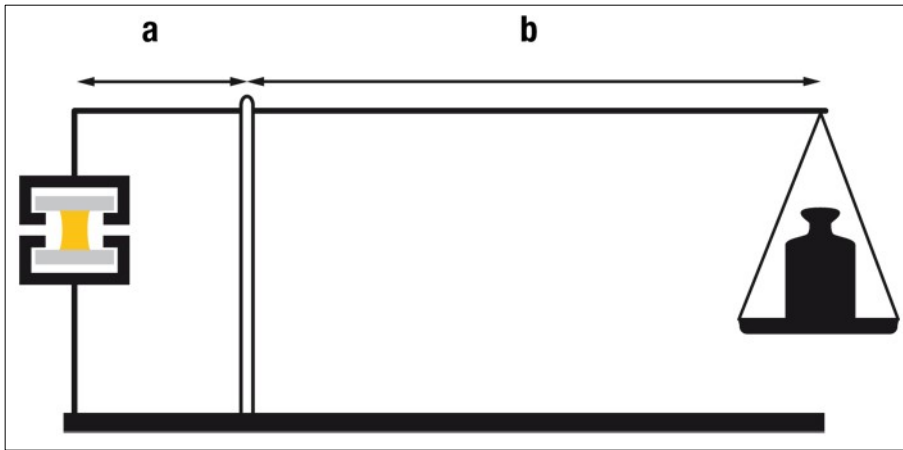

Figure 26: Roman scale for tensile test
4. Determine the mechanical parameters (tensile strength) after at least 72 hours (2-part products) and 21 days (1-part products) by means of a tensile testing equipment (pulling speed: 5 mm/min) or other suitable apparatus (e.g. Roman Scale, Figure 26).
A Roman Scale (see Figure 26) allows silicone applicators to test sealant cure and adhesion with "low cost equipment". The weight applied to the specimen is equal to the weight ( $W$ ) on the scale plate times the ratio of  $b/a$ . According to EOTA ETAG 002 the tensile strength at rupture have to be a minimum of 0.70 MPa. This value corresponds to strength applied to the test specimen of  $12 \text{ mm} \times 50 \text{ mm} \times 0.7 \text{ N/mm}^2 = 420 \text{ N}$  and to a load of 42 kg (SG-550:  $1.0 \text{ N/mm}^2$ , 600 N or 60 kg). In case of a  $b/a$  ratio of 10, a weight of 4.2 kg (SG-550: 6 kg) shall be applied to the plate ( $W$ ). This load shall be applied for 10 seconds with neither adhesive nor cohesive failure of the specimen. If no rupture occurs, you may incrementally add 0.5 kg to the scale until the H-piece ruptures. Record the load at rupture and percent cohesive failure observed on the test samples in the quality control logbook.